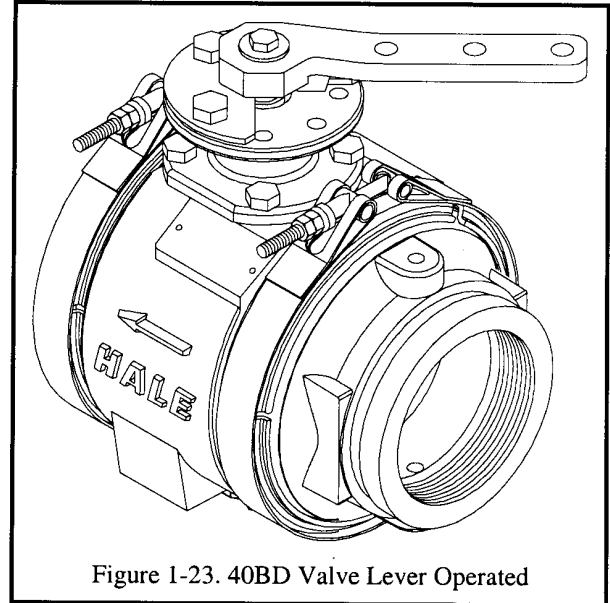

Figure 1-23. 40BD Valve Lever Operated
- ❑ Lever operated for tank and suction line (see figure 1-23).